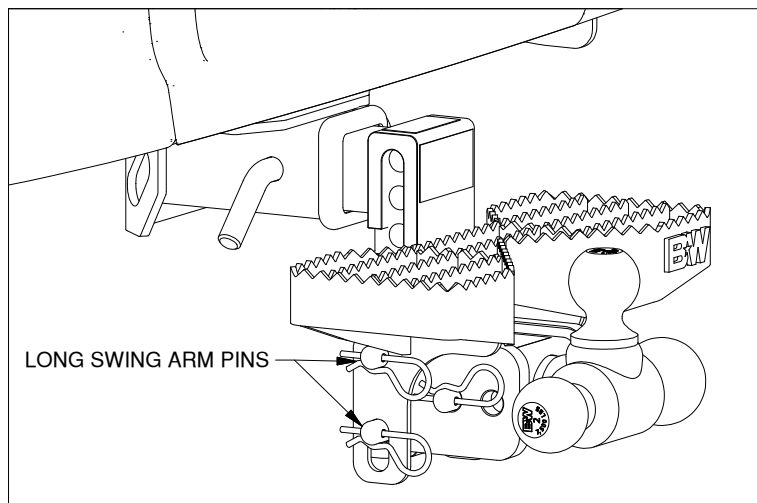

Figure B3: Typical step installation.
3. **Position the step:** Move the step and swing arm to the desired pin block hole location, push the long pins all the way through the pin block. Secure each pin with a cotter pin, see Figure B3.